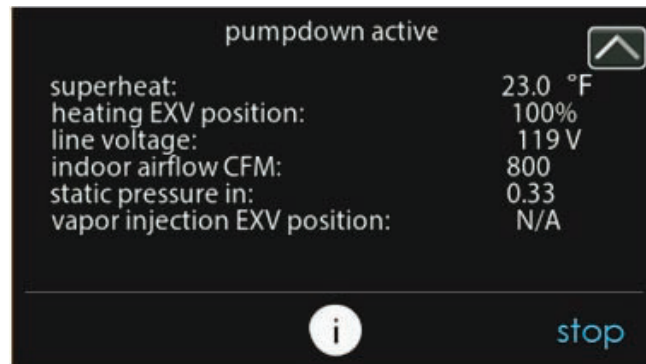

Fig. 25 – Pump Down Active Screen
4. Select Start on Infinity® System Control to begin the pump down process. Unit will begin running in cooling mode after a brief delay and a status screen will be displayed. See Fig. 25.